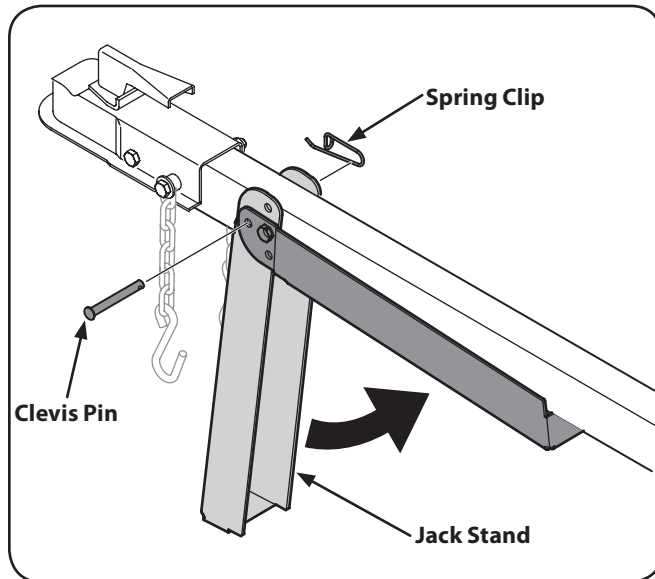

Figure 5-5
3. Support the tongue and pivot the jack stand up against the tongue. See Fig. 5-5.
4. Secure with the spring clip and clevis pin previously removed. See Fig. 5-5.